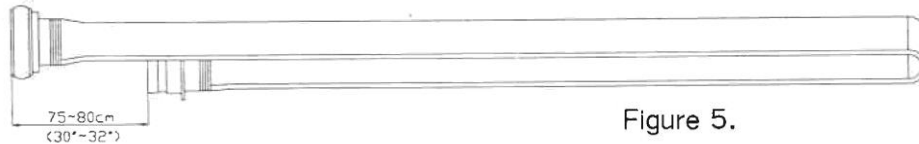

Figure 5.
2. Bend the hose in the middle, the male coupling below, and the female coupling on the top, (as Figure 5)